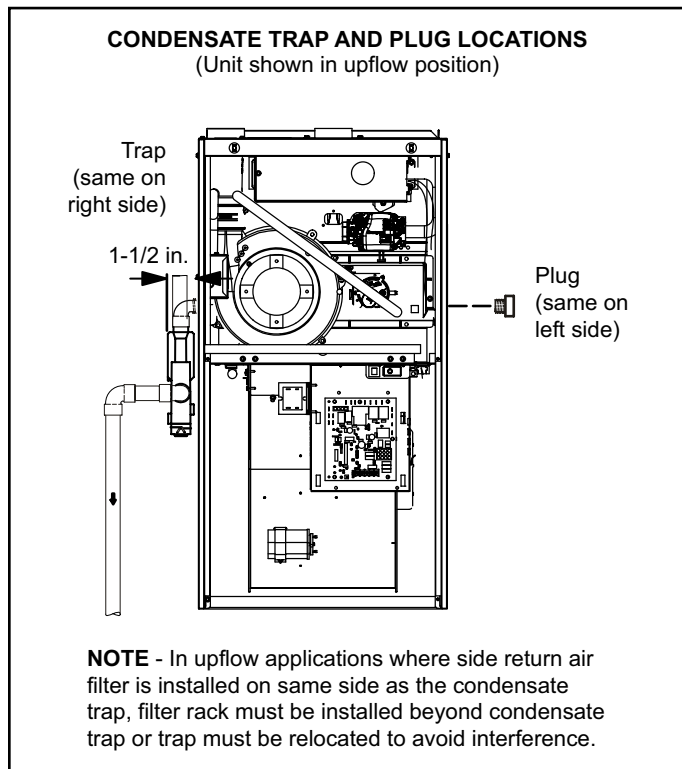
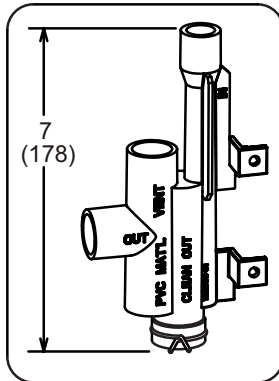

Figure 43.
Figure 52. TRAP / DRAIN ASSEMBLY USING 1/2" PVC OR 3/4" PVC COLD END HEADER BOX WITH 1/2" DRAIN CONNECTION
This unit is designed for either right- or left-side exit of condensate piping in upflow applications. In horizontal applications, the condensate trap must extend below the unit. An 8" service clearance is required for the condensate trap. Refer to Figure 43 and Figure 45 for condensate trap locations. Figure 51 (3/4" drain connection) and Figure 52 (1/2" drain connection) show trap assembly using 1/2" PVC or 3/4" PVC.
2. For furnaces with a 1/2" drain connection use a 3/8 allen wrench and remove plug (Figure 43) from the cold end header box at the appropriate location on the side of the unit. Install field-provided 1/2 NPT male fitting into cold end header box. For furnaces with a 3/4" drain connection use a large flat head screw driver or a 1/2" drive socket extension and remove plug. Install provided 3/4 NPT street elbow fitting into cold end header box. Use Teflon tape or appropriate pipe dope.
3. Install the cap over the clean out opening at the base of the trap. Secure with clamp. See Figure 51 or Figure 52.
4. Install drain trap using appropriate PVC fittings, glue all joints. Glue the provided drain trap as shown in Figure 51 or Figure 52. Route the condensate line to an open drain. Condensate line must maintain a 1/4" downward slope from the furnace to the drain.